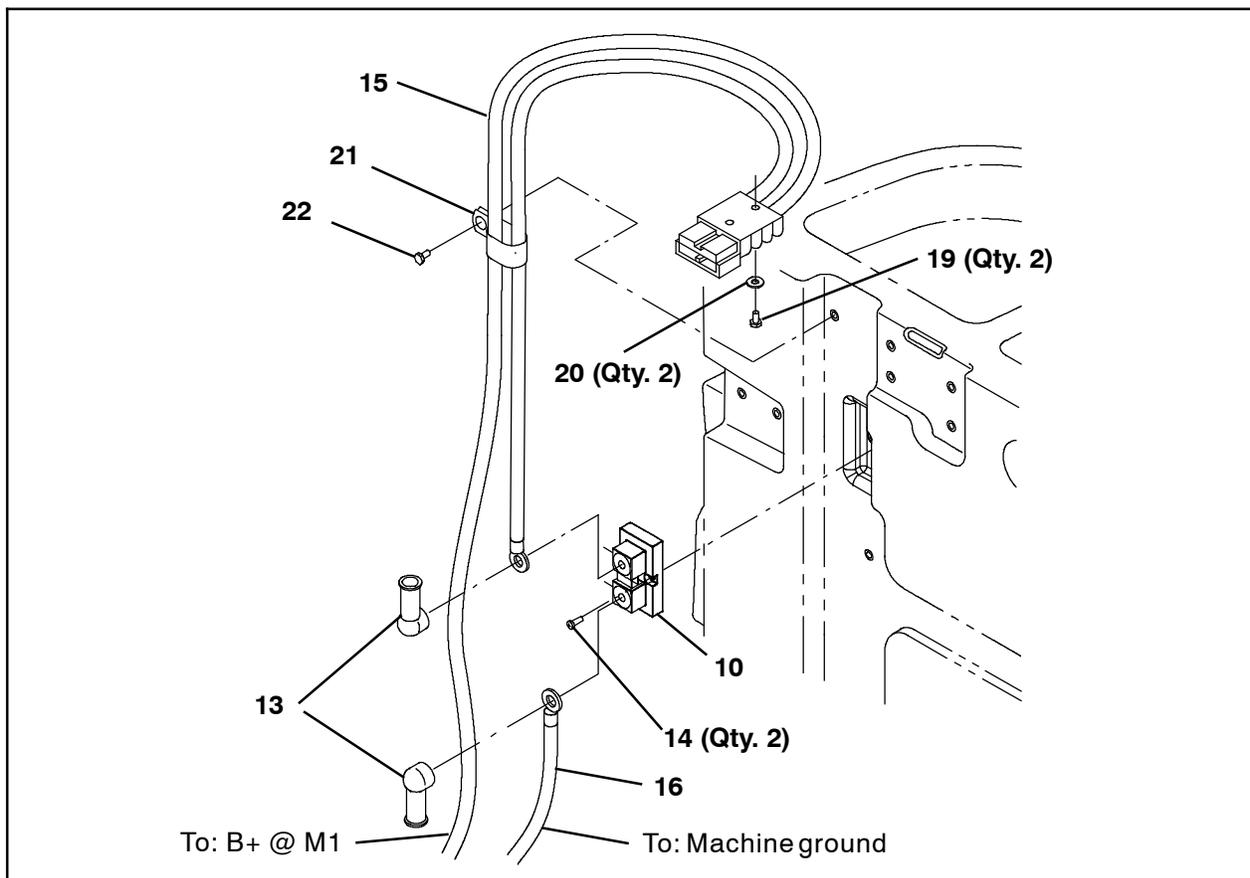

**FIG. 4**
1. Use two M4 pan screws (11) to install the shunt (10) onto the recovery tank. (Fig. 4)
2. Use two hex screws (20) and two flat washers (19) to install the new battery cable (15) onto the battery cover. (Fig. 4 / Fig. 6)